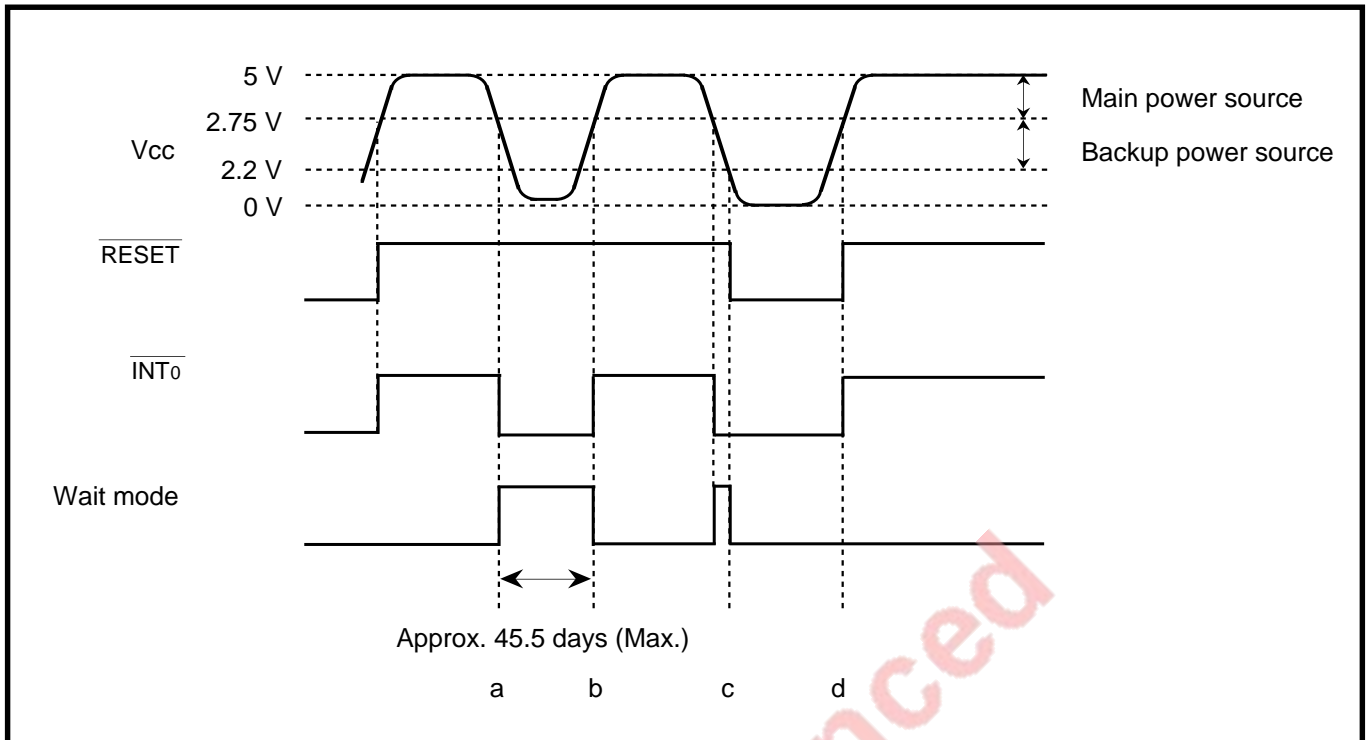

Fig. 17.5.2 Timing chart
- ① Main power source = 5 V to 2.75 V. Backup power source = 2.75 V to 2.2 V
- ② Timer B2 uses the sub clock (32.768 kHz) divided by 32 as the count source and counts the time up to 1 minute.
- ③ Timer B2 counts the power-source-off time up to the maximum of approximate 45 days, checking the timer B2's overflow signal.
- ④ The clock counter is counted up each time timer B2 interrupt occurs, in other words, every 1 minute.
- ⑤ When  $V_{CC}$  is less than 2.75 V, in other words, when the main power source is off, the  $\overline{INT0}$  input's level changes from "H" to "L" and the microcomputer enters the wait mode at this falling edge. (Refer to "a" in Figure 17.5.2.)
- ⑥ In the wait mode ( $V_{CC} = 2.2$  V or more), only timers B2 and B1 do counting. (In this case, note that clock display is disabled and the timer B2 and B1 interrupts are disabled.)
- ⑦ When  $V_{CC} = 2.75$  V or more in the wait mode, in other words, when the main power source is on, the  $\overline{INT0}$  input's level changes from "L" to "H" and the wait mode is terminated at the  $\overline{INT0}$  input's rise. (Refer to "b" in Figure 17.5.2.) At this time, the following is done according to the timer B1's state.
- ⑧ When  $V_{CC} = 2.2$  V or less, the microcomputer enters the reset state owing to the power source detection circuit. (Refer to "c" in Figure 17.5.2.) And then, when  $V_{CC} = 2.75$  V or more, the microcomputer is released from reset state. (Refer to "d" in Figure 17.5.2.)